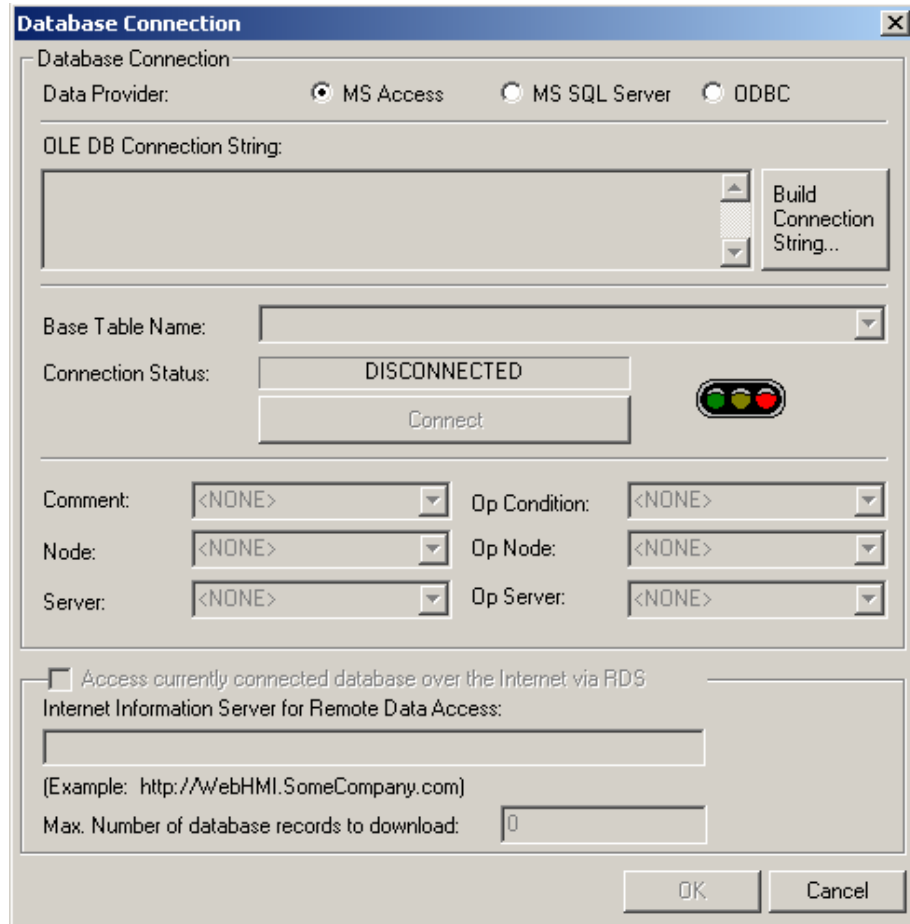

Figure A.4. Connecting to a Database
2. Under **Data provider**, select **Microsoft Access**, as shown in **Figure A.4**.